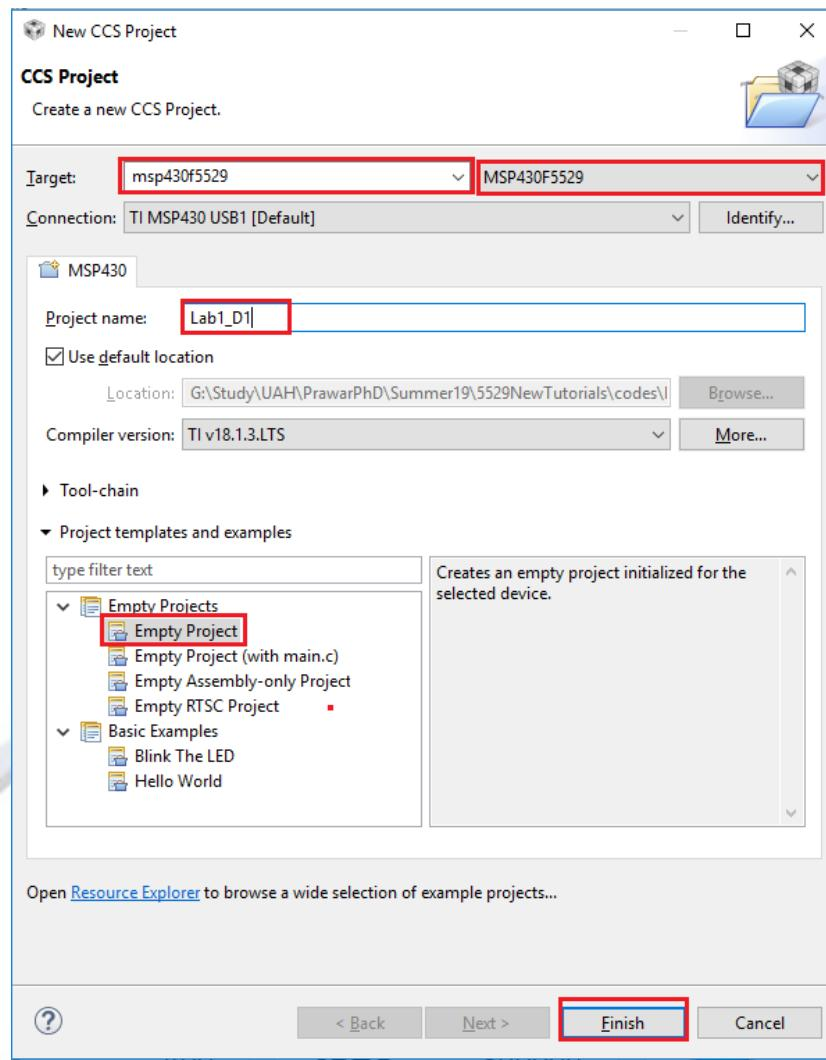

Figure 3. New CCS Project Setup
Step 3. Create a new project from the *Getting Started* menu. Click the <New Project> button. A New CCS Project window appears as shown in Figure 3.
Step 4. Name the project “Lab1_D1” and select “Empty Project” (see Figure 3.). For the target, select one of the following options depending on the target board: (a) MSP430FG4618 for the TI MSP430FG4618/2013 Experimenter’s board; (b) MSP430G2553 for the MSP430 Launchpad; or (c) **MSP430F5529 for MSP430F5529 Launchpad**.